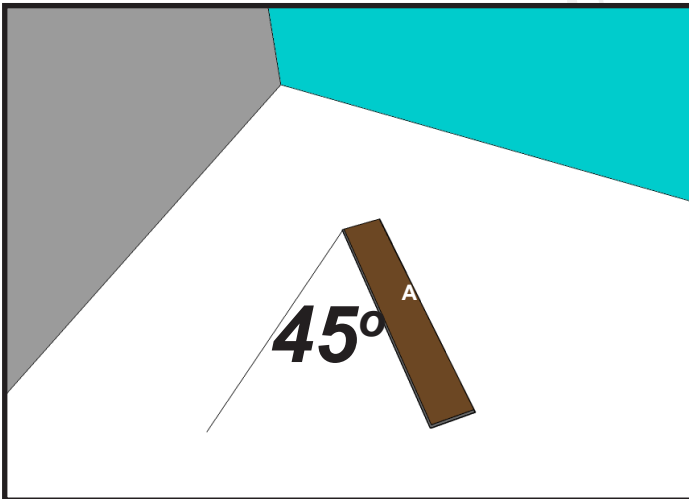

Figure 2
Step 1: Start the installation on the left side of a wall. Lay an A panel on the floor with its long side facing the wall and place it at an angle of 45 degrees (**Figure 2**). The distance between the left wall and nearest point of the A panel must be less than the longer side of one HERF Herringbone® panel.